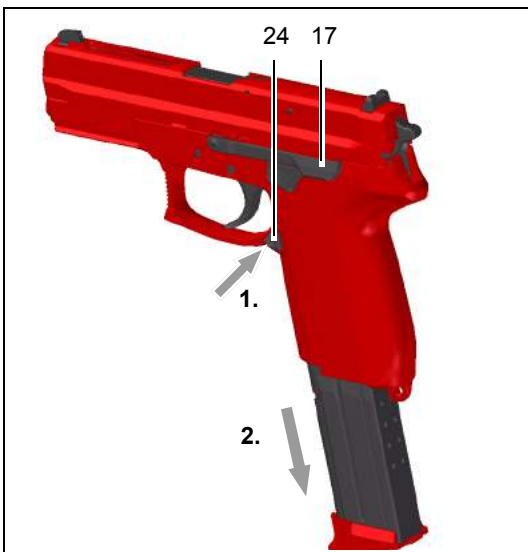

Fig. 3, Removing the magazine
1. Remove the empty magazine (see Fig. 3).
3. Actuate magazine catch **24** and remove the magazine (see Fig. 3).
2. Actuate magazine catch **24** and remove the magazine (see Fig. 3).